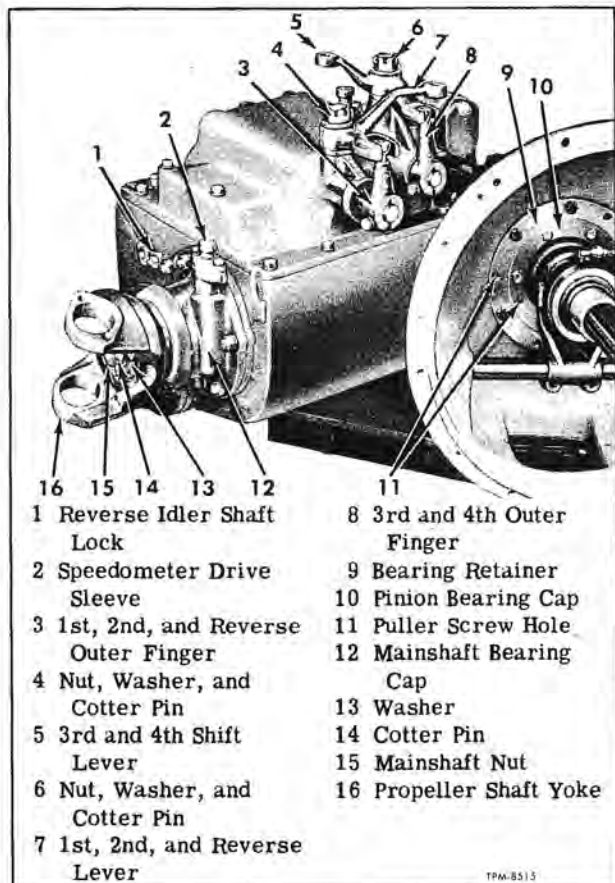

Figure 2—Transmission Showing Shift Levers and Propeller Shaft Yoke
The terms "Front" and "Rear" as used in this section do not refer to mounted position of transmission in coach. "Front" refers to the input or engine end of transmission while "Rear" refers to output or propeller shaft end of transmission. View of levers and propeller shaft yoke is shown in figure 2.
(42) is installed in bearing cap (34) and is held in place by sleeve (2, fig. 2).
External levers and fingers at transmission cover (fig. 2) are operated by transmission gear shift lever and linkage. Inner fingers (7 and 12) engage notches in shift forks. Three shift forks (1, 10, and 13) are clamped to shift rods (15, 16, and 17). Sleeves (5 and 9) on shift rods prevent overshifting, and spring-loaded poppet balls in cover engage notches in top of shift rods to lock the rods into proper position. Interlocks prevent lock-up of transmission by preventing engagement of two gears at once.
1. Place gearshift lever in neutral position and disconnect rods from levers on transmission (fig. 2).
3. With transmission levers (5 and 7, fig. 2)